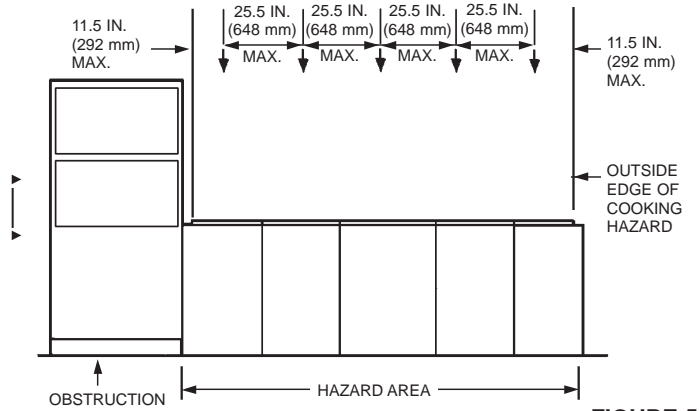

FIGURE 5
6. When taller appliance(s) or other obstructions are located adjacent to appliance(s) protected by overlapping nozzles, the overlapping appliance nozzle spacing must start with the appliance(s) adjacent to the obstruction. See Figure 5.